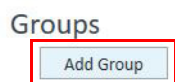

Figure 13 Add groups
- 1 Click **Add Group** to create **Group 1**. (See Figure 13.)